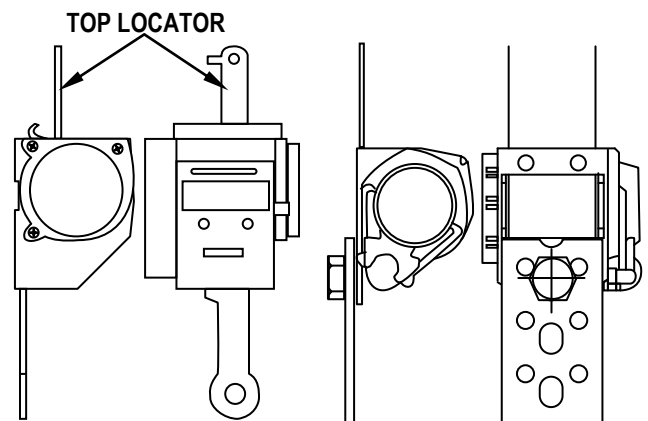

FIGURE 2
1. Original Equipment seat belt pictured on the left hand side and Aftermarket on the right hand side. Figure 2.